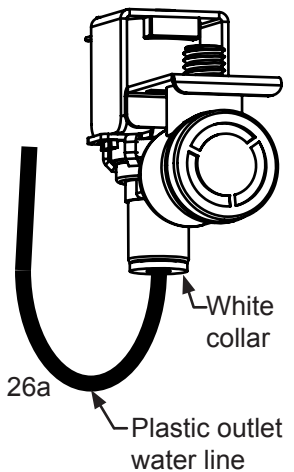

Figure 26a
3. Switch the rocker switch to CLEAN for approximately one (1) minute. This will energize and open the water valve and remove most of the water from the water valve and the water valve's outlet water line to the reservoir.
7. Disconnect the water valve's outlet water line to the reservoir and drain the remaining water left in the water line trap area. See Figure 26a.
8. Reconnect the water valve outlet water line. See Figure 26a.